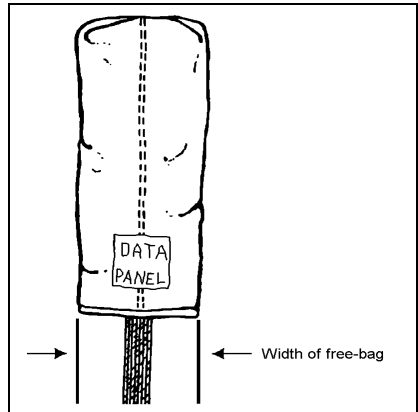

Figure 16.
Step 11.) Kneel on the trailing edge of the center cell of the canopy and center the middle seam of the center cell in the middle of the canopy bundle. “Cocoon” fold the bundle by spreading the center cell of the reserve canopy to the approximate width of the reserve free-bag and tuck the outer edges of the material under the bundle. (See Figure 16.) Prepare the free-bag in accordance with the manufacturer’s instructions supplied with harness/container system.